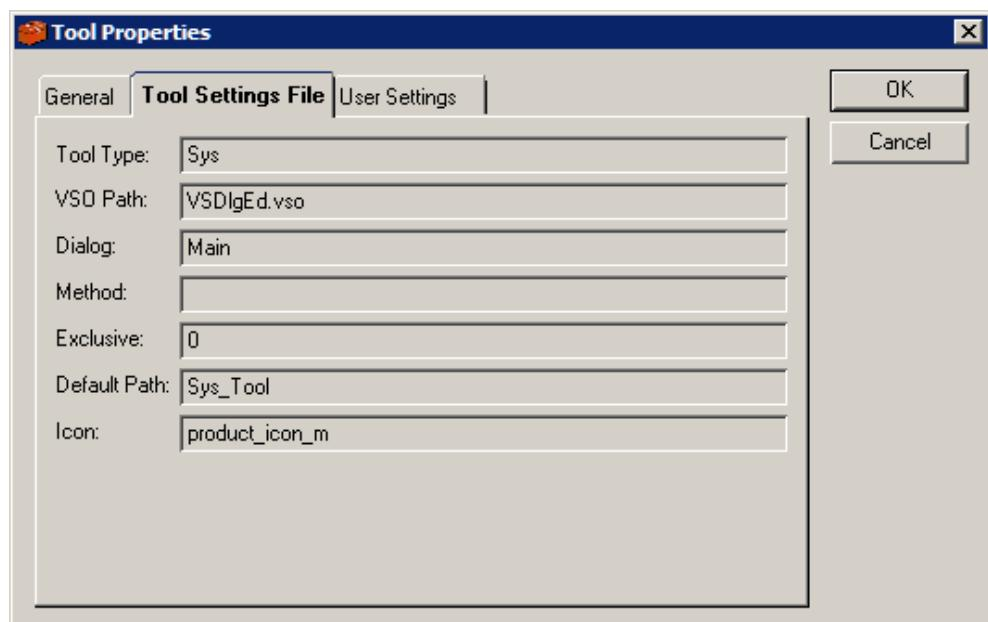

Figure 266: The Tools Settings File Page
- The **Tool Settings File** page shows information from the tool's settings file. Figure 266. These settings cannot be changed from the Tool Manager.